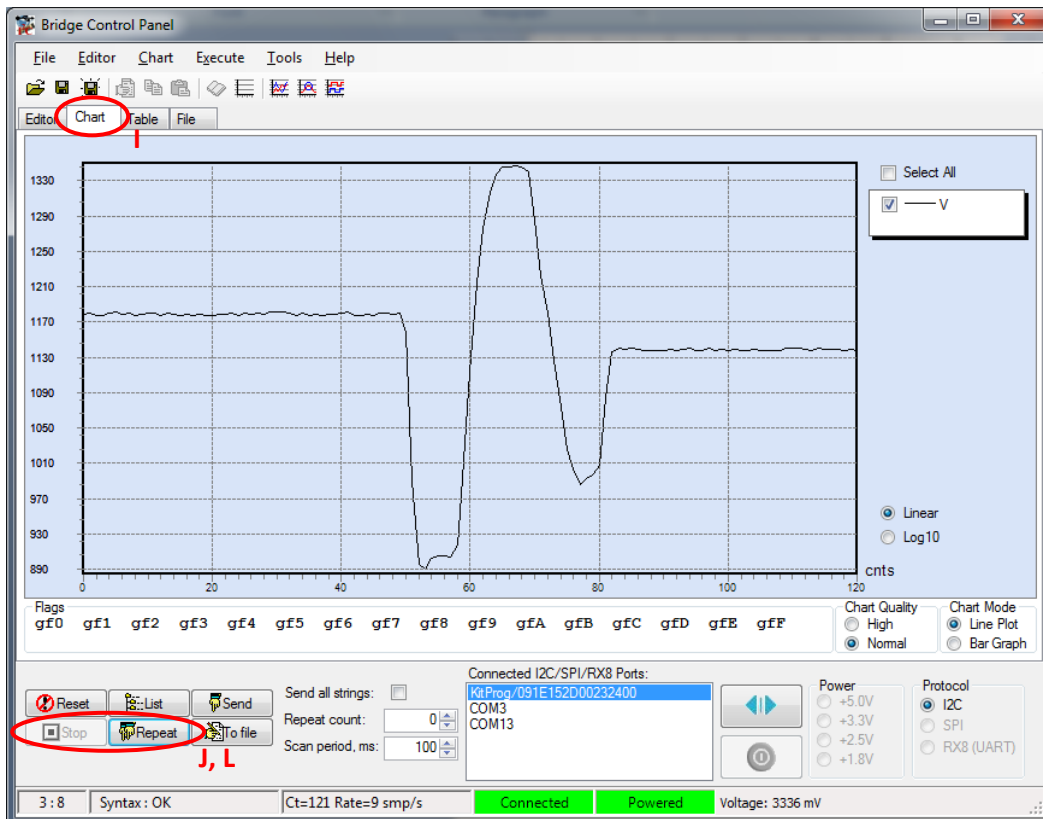

Figure 4: Bridge Control Panel Chart Window
- I. Go to the "Chart" Tab (Figure 4).
- J. Click “Repeat” to see the voltage plotted real time (Figure 4).
- L. Click “Stop” when done (Figure 4).